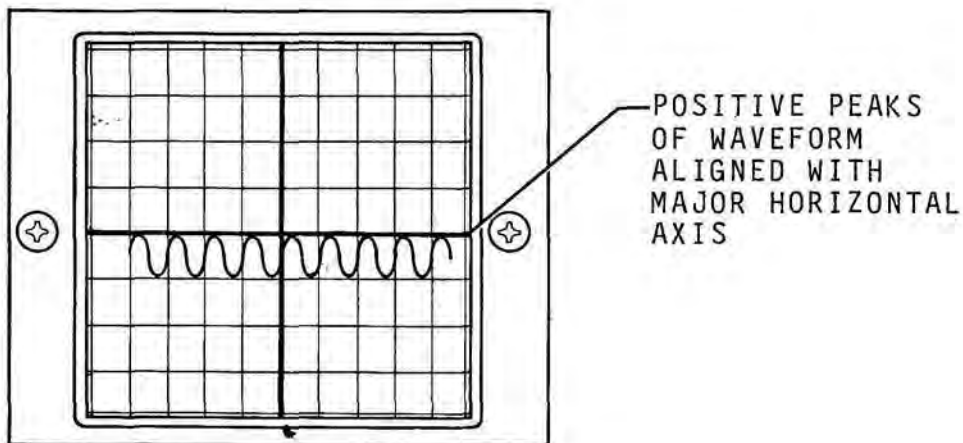

Figure 3-6 Positive Peaks Of Displayed Waveform Aligned With Major Horizontal Axis
12. Set MODULATION FREQ Hz Thumbwheels (27) to "01000.0 Hz".
13. Adjust VERT Control appropriately until positive peaks of waveform are aligned with major horizontal axis (see Figure 3-6).